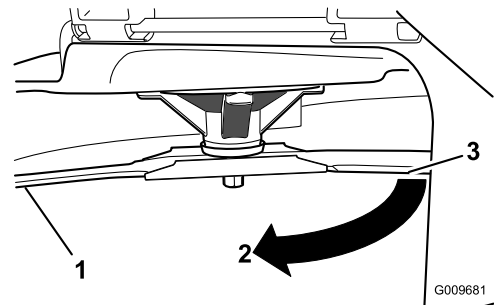

Figure 43
3. Measured distance between the blade and the surface (A)
4. Rotate the same blade 180 degrees, so that the opposing cutting edge is now in the same position (Figure 43).